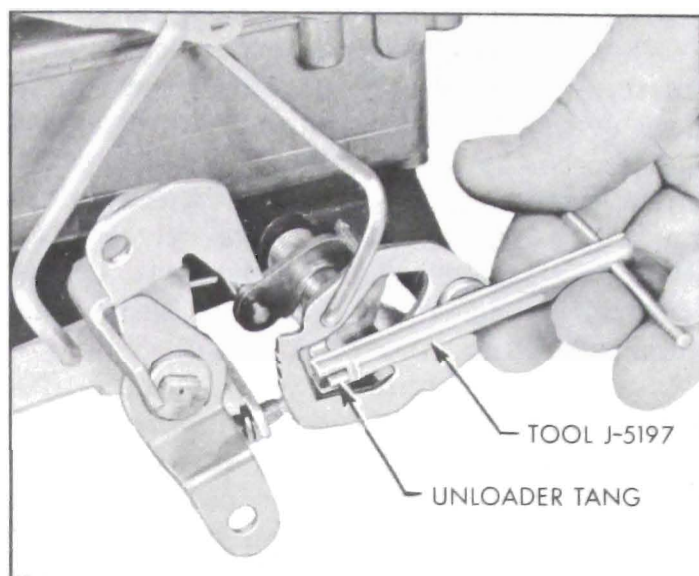

Figure 3-85—Adjusting Choke Unloader
4. If choke valve clearance is not correct, bend unloader tang as required to obtain specified clearance using Tool J-5197. See figure 3-85.